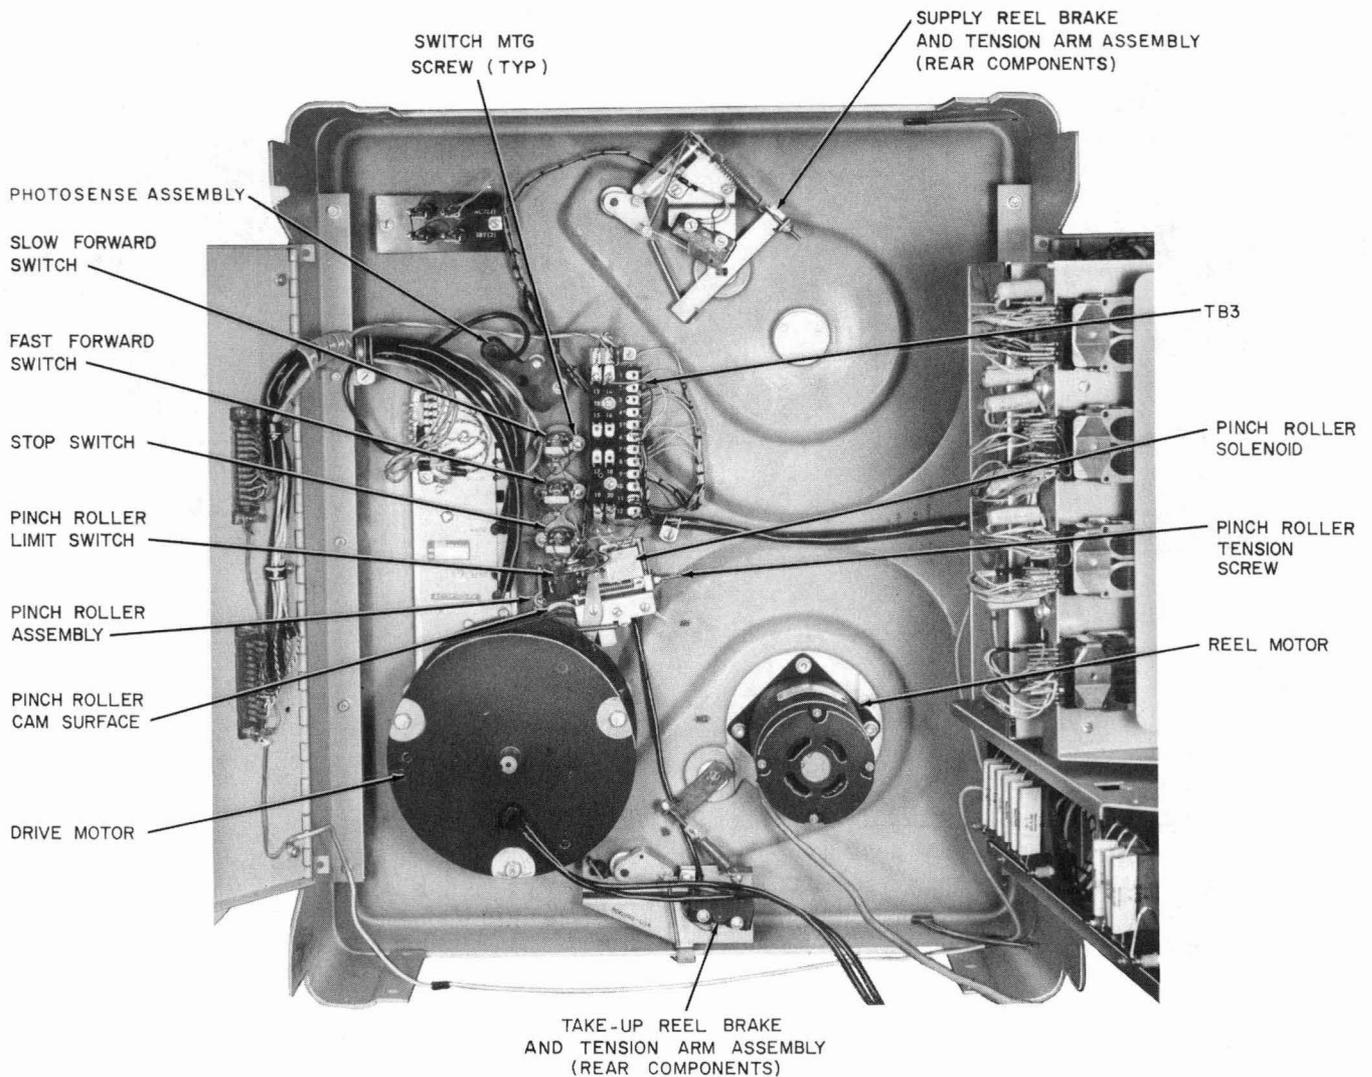

Fig. 4—KS-19125 L3 Recorder—Rear View
(b) **Motors:** The drive motor (Fig. 4) and the reel motor contain ball bearings which require no lubrication service.
(c) **Pinch Roller Knob and Pinch Roller Assembly:** The cam surface (Fig. 4) of the pinch roller knob which rubs against the pinch roller assembly should be lubricated at
- (1) Condition recorder for manual control of operation.
- (2) Turn pinch roller knob to RUN position.
- (3) At the rear of recorder (Fig. 4), connect W1AB cord between TB3-19 and TB3-11 (ground).
- (4) The pinch roller lock solenoid shall operate and the pinch roller knob shall be locked in the RUN position.
- (5) Remove the jumper cord from TB3.